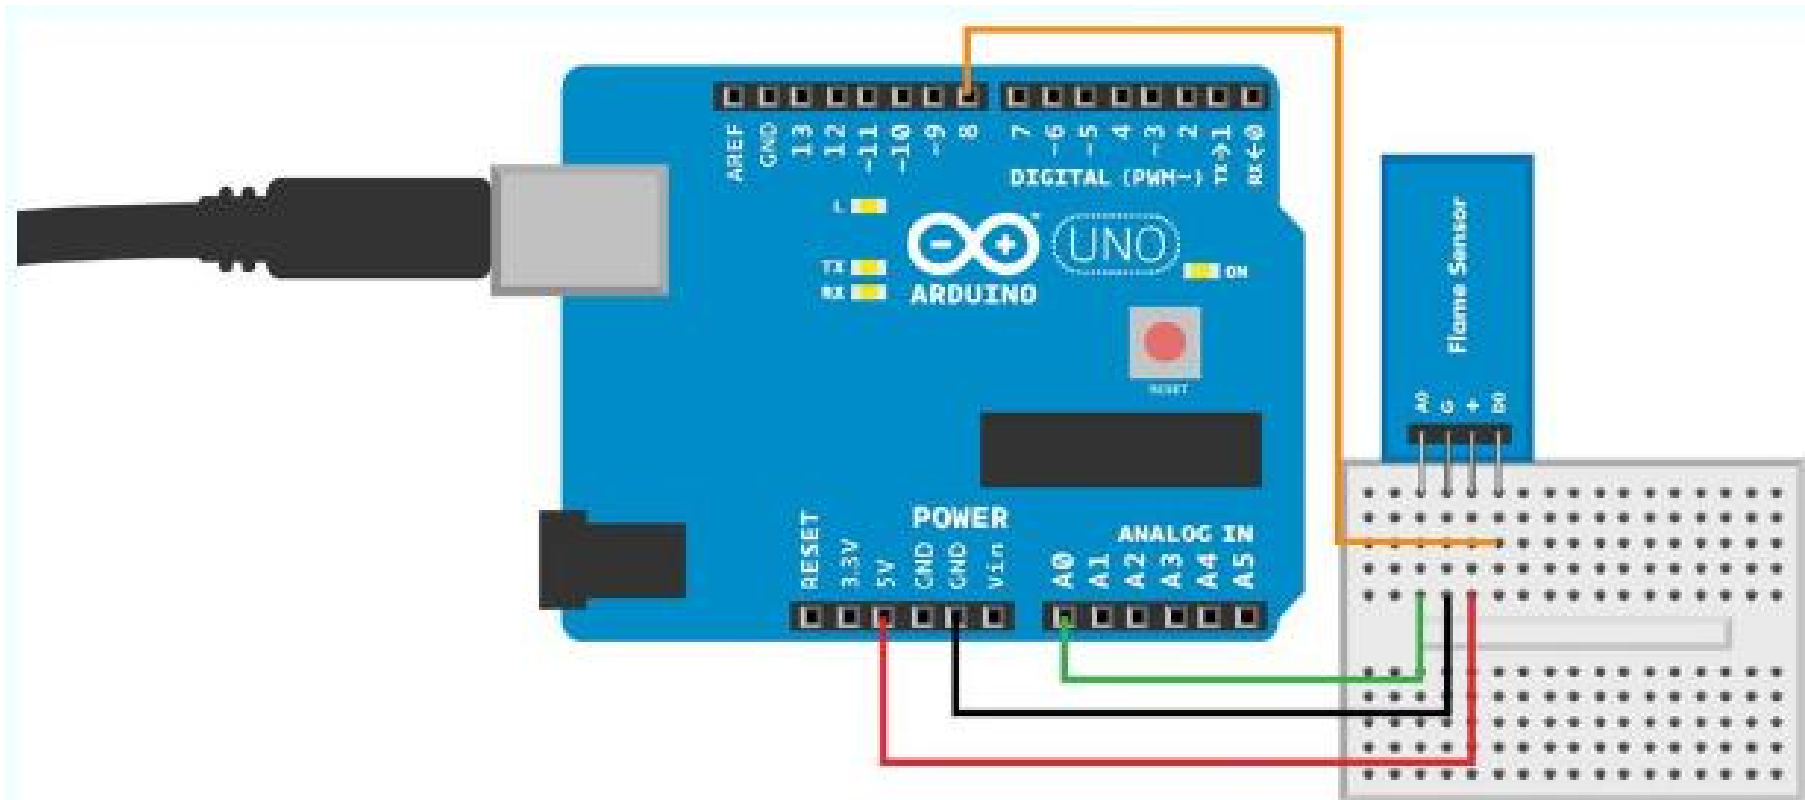

Figure 7-3. Flame sensor circuit for Arduino
- Figure 7-3 shows the wiring diagram for the flame sensor with Arduino. Wire it up as shown, and then run the sketch shown in Example 7-1.